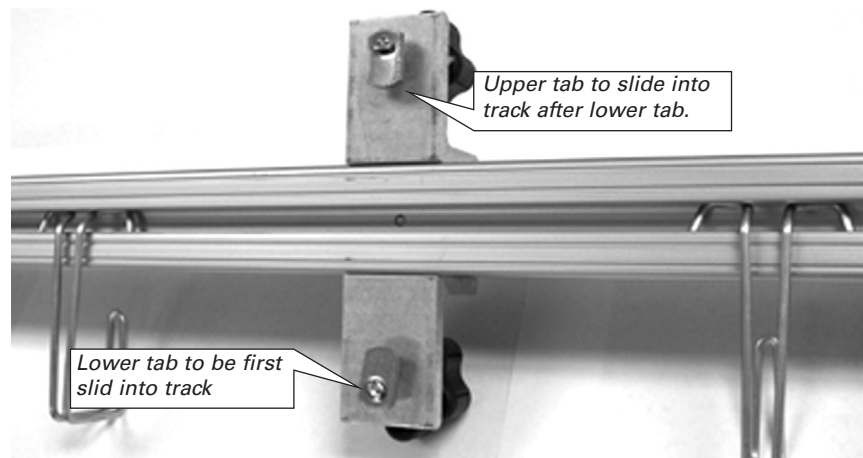
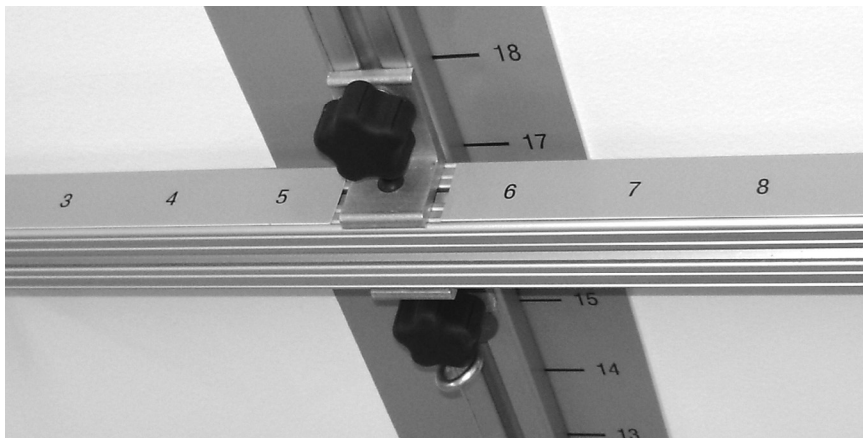

Figure 2 – Rear view of horizontal crossbar showing mounting tab positions.
Figure 3 – Horizontal crossbar installed onto mounted lower track.
3. Install horizontal exercise crossbar (wire hooks down, eye bolts out) by carefully sliding the tabs (Fig. 2) into the upper end of the lower t-track. Keep the long ends of the tabs pointing at each other (towards the middle of the horizontal bar). Position the crossbar so that the upper mounting screw is completely accessible to adjustment and final tightening. Tighten knobs (Fig. 3).